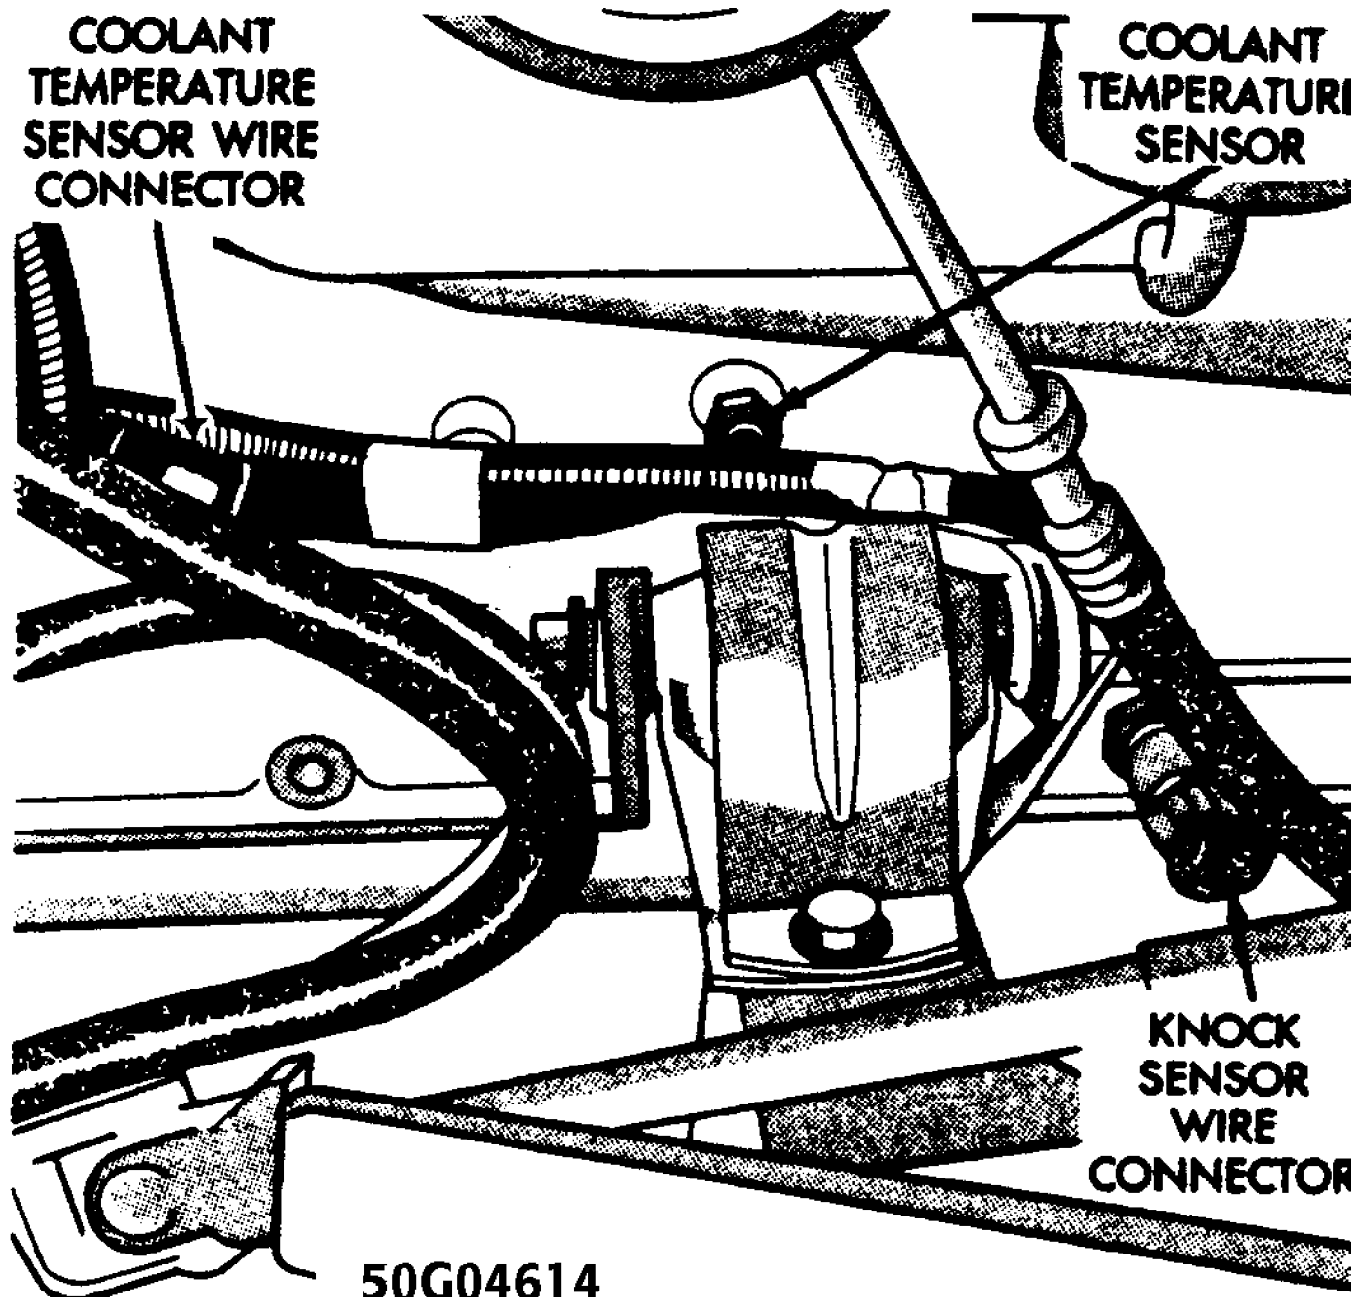

Fig. 17: Coolant Temperature Sensor (CTS) Connector
- 3) Disconnect the CTS wire connector. See Fig. 17.